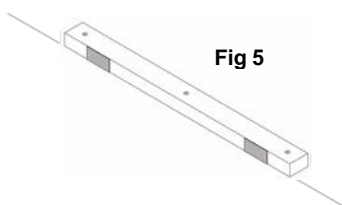

Fig 5
9. The floor brace has two pieces of adhesive foam tape pre-applied to its front face. See Fig 5.